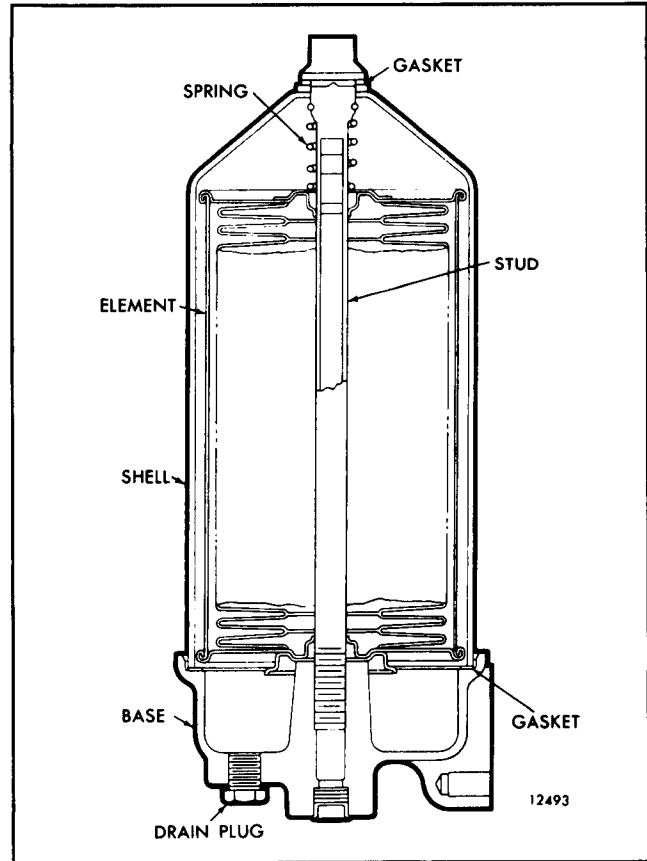

Fig. 4 - Bypass Oil Filter Details
When additional filtration is desired, an oil filter of the bypass type may also be installed on the engine (Fig. 4). However, *the size of the orifice on the discharge side of the filter must not exceed .062"* to control the oil flow rate and to provide sufficient oil pressure when the engine is running at idle speed.
Replace the element in either the full-flow or bypass type oil filter assembly (Figs. 4 and 5) as follows:
5. Remove and discard the element retainer seal (Fig. 4). Install a new seal.